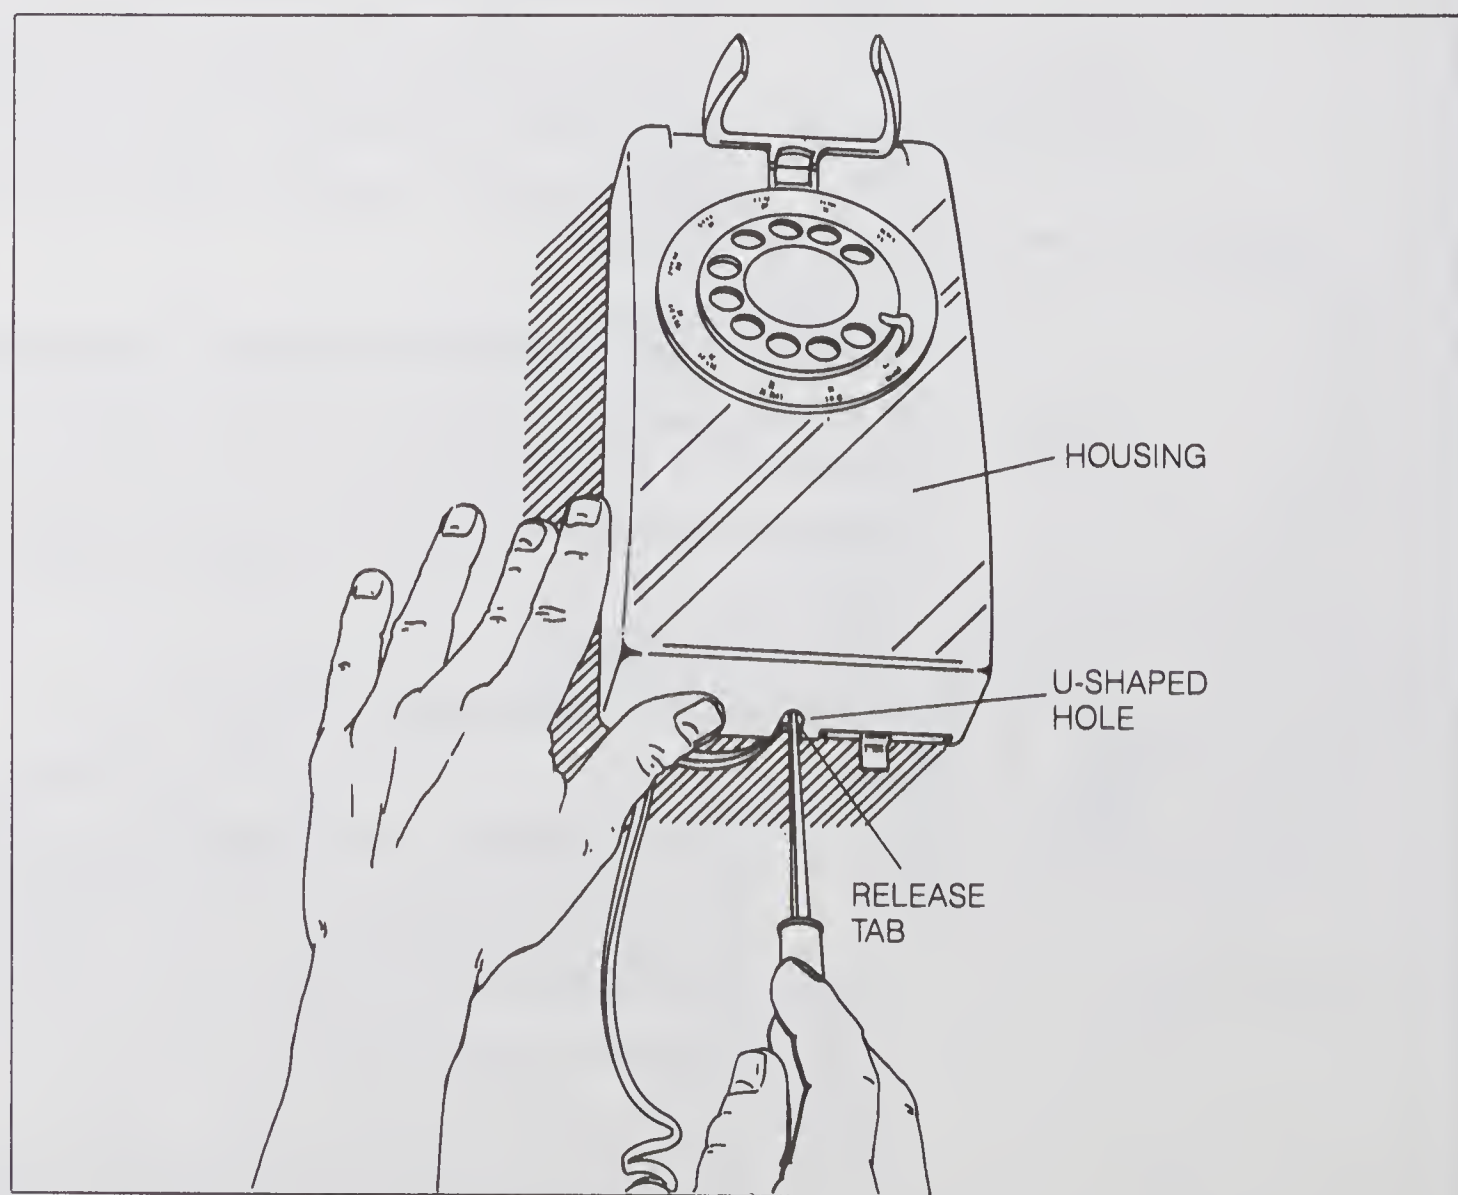

Figure 4-13.
1.	(The following instructions are for a common type of wall telephone. There are other types that have screws that hold the case in position.) Remove the case of the wall telephone by taking a screwdriver and pushing up on a spring clip at the bottom of the telephone case as shown in Figure 4-13 . (The eraser end of pencil makes a good tool for this.) There is a u-shaped notch in the case and a portion of the spring clip is exposed. Pushing up on the spring clip and in on the bottom of the case allows the case to be released and pulled away from the the plate connected to the wall
- as shown in *Figure 4-13*. Remove the handset from its hanger and unhook the case from a spring latch at the top of the back plate. Then lift the case over the hanger so it is free to be put aside.